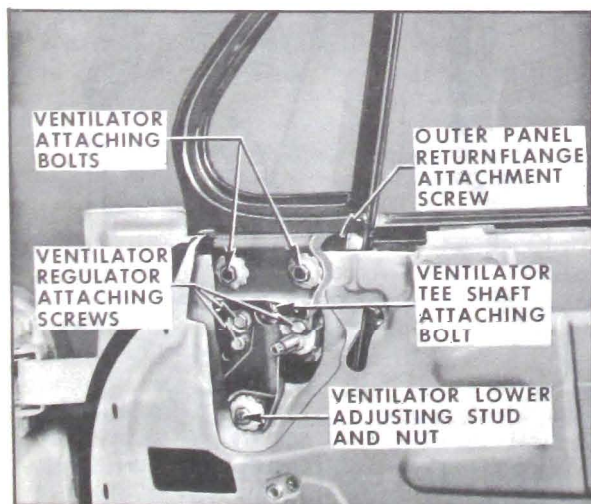

Figure 2-20—Front Door Ventilator Attachment (Sedans)
3. Remove ventilator tee shaft attaching bolt and ventilator regulator attaching screws (see Figure 2-20).
1. Excessive "play" (flutter) of ventilator at pivot shaft when ventilator is in open position, can be corrected by tightening ventilator tee shaft to regulator shaft attaching bolt (see Figure 2-20).